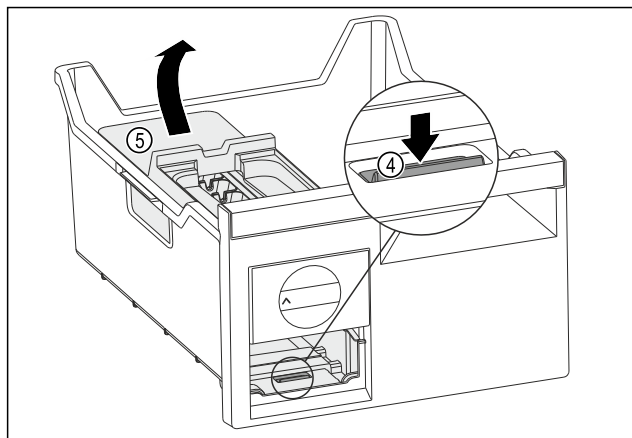

Fig. 120
- Removing the EasyTwist-Ice body: Use your finger to push the tab Fig. 120 (4) down and use your other hand to lift the EasyTwist-Ice body Fig. 120 (5) from behind at the same time.